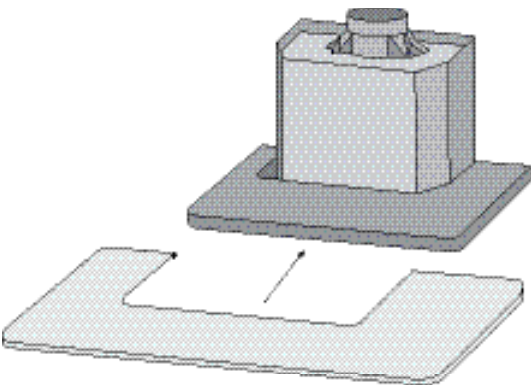

Fig. 10
9. **Glass Assembly** (Fig. 10 & 11). When the body of the hood is assembled on the wall, slide the glass onto the glass supports and fix with the 4 screws provided.